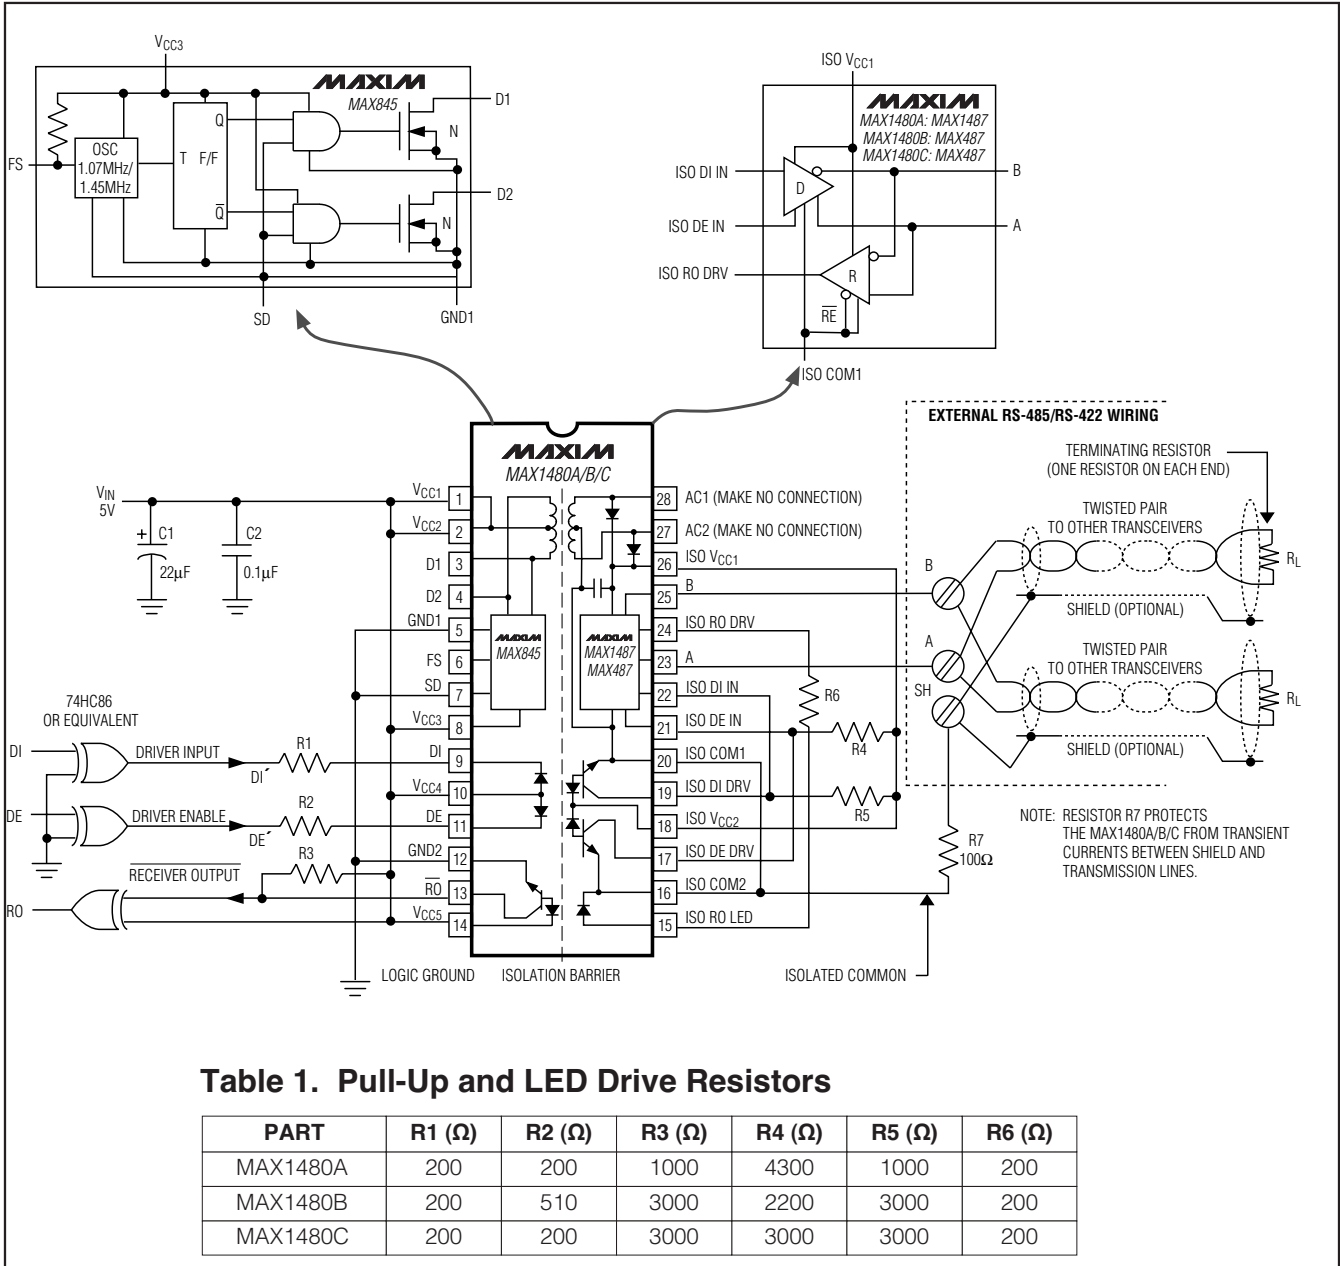
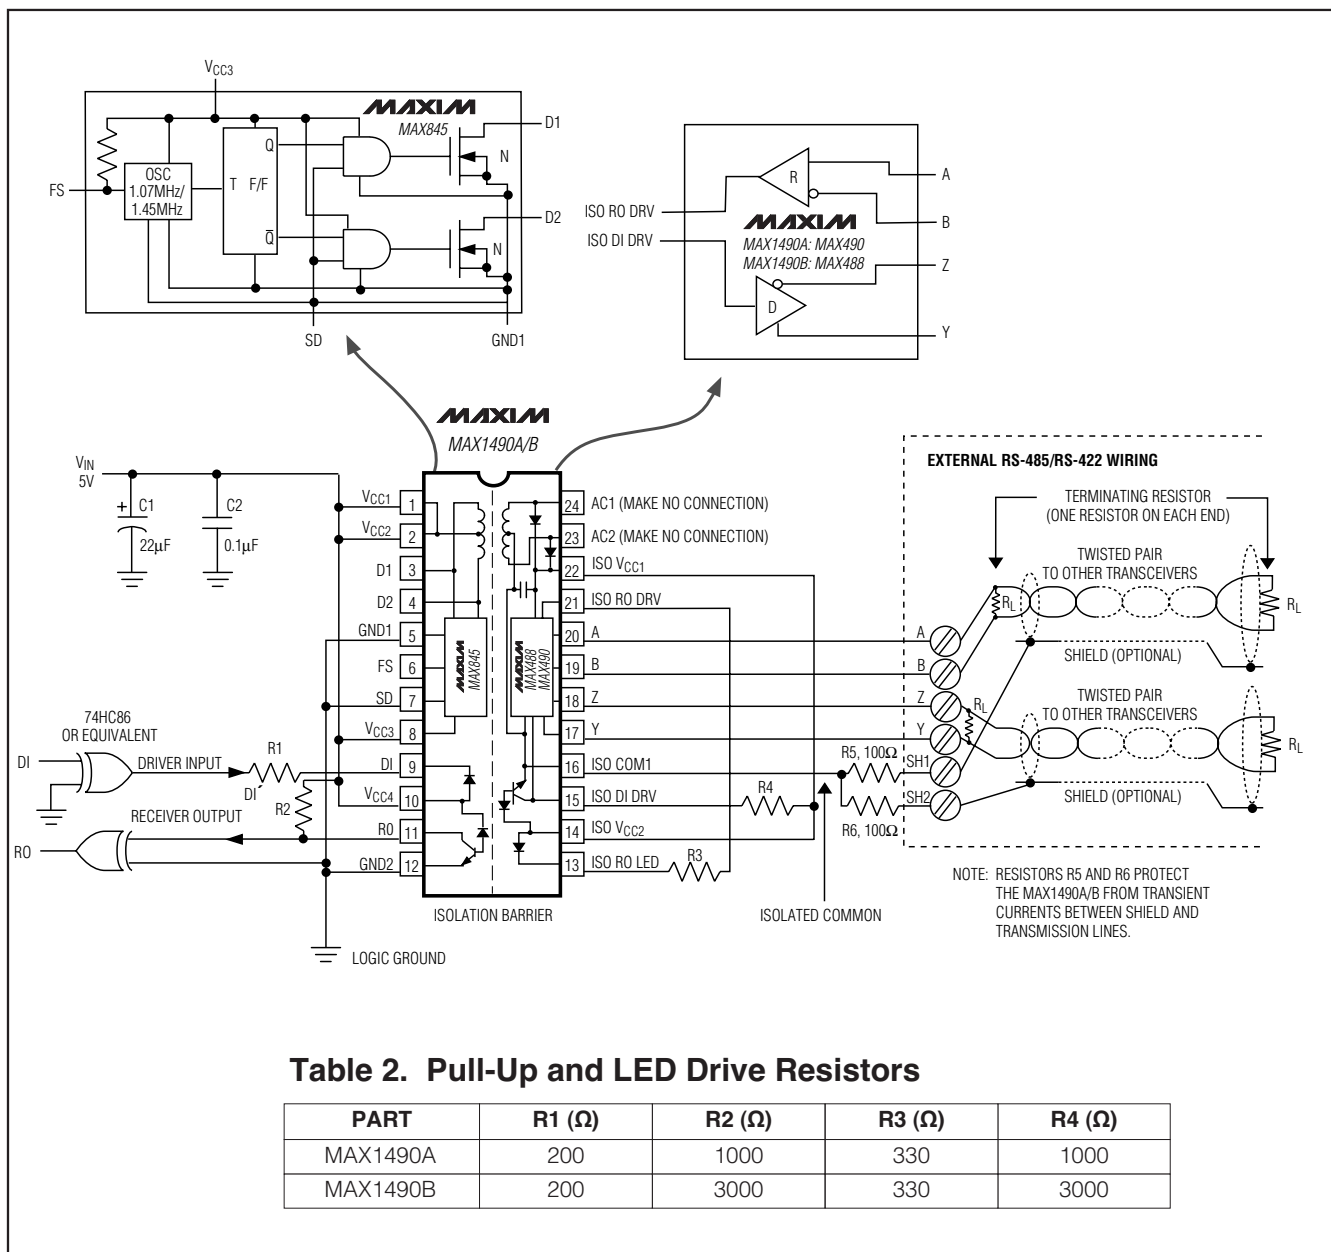

Figure 1. MAX1480A/MAX1480B/MAX1480C Detailed Block Diagram and Typical Application Circuit
Figure 2. MAX1490A/MAX1490B Detailed Block Diagram and Typical Application Circuit
| 9 | 9 | DI | Driver Input. With DE [̄] high (MAX1480A/B/C only), a low on DI [̄] forces output A low and output B high. Similarly, a high on DI [̄] forces output A high and output B low. Drives internal LED cathode through a resistor (Table 1 of Figure 1 for MAX1480A/B/C, Table 2 of Figure 2 for MAX1490A/B). |
| 11 | — | DE | Driver-Enable Input. The driver outputs, A and B, are enabled by bringing DE [̄] high. The driver outputs are high impedance when DE [̄] is low. If the driver outputs are enabled, the device functions as a line driver. While the driver outputs are high impedance, the device functions as a line receiver. Drives internal LED cathode through a resistor (Table 1 of Figure 1). |
| — | 11 | RO | Receiver Output. If A > B by 200mV, RO will be high; if A < B by 200mV, RO will be low. Open collector; must have pullup to V _{CC} (Table 2 of Figure 2). |
| 13 | — | \overline{RO} | Receiver Output. If A > B by 200mV, \overline{RO} will be low; if A < B by 200mV, \overline{RO} will be high. Open collector; must have pullup to V _{CC_} (Table 1 of Figure 1). |
| 15 | 13 | ISO RO LED | Isolated Receiver Output LED. Internal LED anode in MAX1480A/B/C and LED cathode in MAX1490A/B. Connect to ISO RO DRV through a resistor (Table 1 of Figure 1 for MAX1480A/B/C; Table 2 of Figure 2 for MAX1490A/B). |
| 17 | — | ISO DE DRV | Isolated Driver-Enable Drive. The driver outputs, A and B, are enabled by bringing DE [̄] high. The driver outputs are high impedance when DE [̄] is low. If the driver outputs are enabled, the device functions as a line driver. While the driver outputs are high impedance, the device functions as a line receiver. Open-collector output; must have pullup to ISO V _{CC_} and be connected to ISO DE IN for normal operation (Table 1 of Figure 1). |
| 19 | 15 | ISO DI DRV | Isolated Driver-Input Drive. With DE [̄] high (MAX1480A/B/C only), a low on DI [̄] forces output A low and output B high. Similarly, a high on DI [̄] forces output A high and output B low. Connect to ISO DI IN (on the MAX1480A/B/C only) for normal operation. Open-collector output; connect a pullup resistor to ISO V _{CC_} (Table 1 of Figure 1 for MAX1480A/B/C; Table 2 of Figure 2 for MAX1490A/B). |
| 20 | 16 | ISO COM1 | Isolated Common. For MAX1480A/B/C, connect to ISO COM2 (pin 16) (Figures 1 and 2). |
| 24 | 21 | ISO RO DRV | Isolated Receiver-Output Drive. Connect to ISO RO LED through a resistor (Table 1 of Figure 1 for MAX1480A/B/C, Table 2 of Figure 2 for MAX1490A/B). |
Note: For DE⁺ and DI⁺ pin descriptions, see *Detailed Block Diagram and Typical Application Circuit* (Figure 1 for MAX1480A/B/C, Figure 2 for MAX1490A/B).
The MAX1480A/MAX1480B/MAX1480C/MAX1490A/MAX1490B are complete, electrically isolated, RS-485/RS-422 data-communications interface solutions. Transceivers, optocouplers, a power driver, and a transformer in one standard 28-pin DIP package (24-pin for the MAX1490A/B) provide a complete interface. Signals and power are internally transported across the isolation barrier (Figures 1, 2). Power is transferred from the logic side (nonisolated side) to the isolated side of the barrier through a center-tapped transformer. Signals cross the barrier through high-speed optocouplers. A single +5V supply on the logic side powers both sides of the interface. The MAX1480A/B/C offer half-duplex communications while the MAX1490A/B feature full-duplex communication. The functional input/output relationships are shown in Tables 3–6.
* For DE' and DI' pin descriptions, see *Detailed Block Diagram and Typical Application Circuit* (Figure 1 for MAX1480A/B/C, Figure 2 for MAX1490A/B).
The MAX1480A/MAX1480B/MAX1480C/MAX1490A/MAX1490B are specified and characterized using the resistor values shown in Table 1 of Figure 1 and Table 2 of Figure 2. Altering the recommended values can degrade performance.
The isolated common may be completely floating with respect to the logic ground and the effective network ground. The receiver input resistors will cause the isolated common voltage to go to the mean voltage of the receiver inputs. If using shielded cable, connect the isolated common to the shield through a 100Ω resistor. In the case of the MAX1490, each shield should have its own 100Ω resistor (Figures 1, 2, 13, and 14).